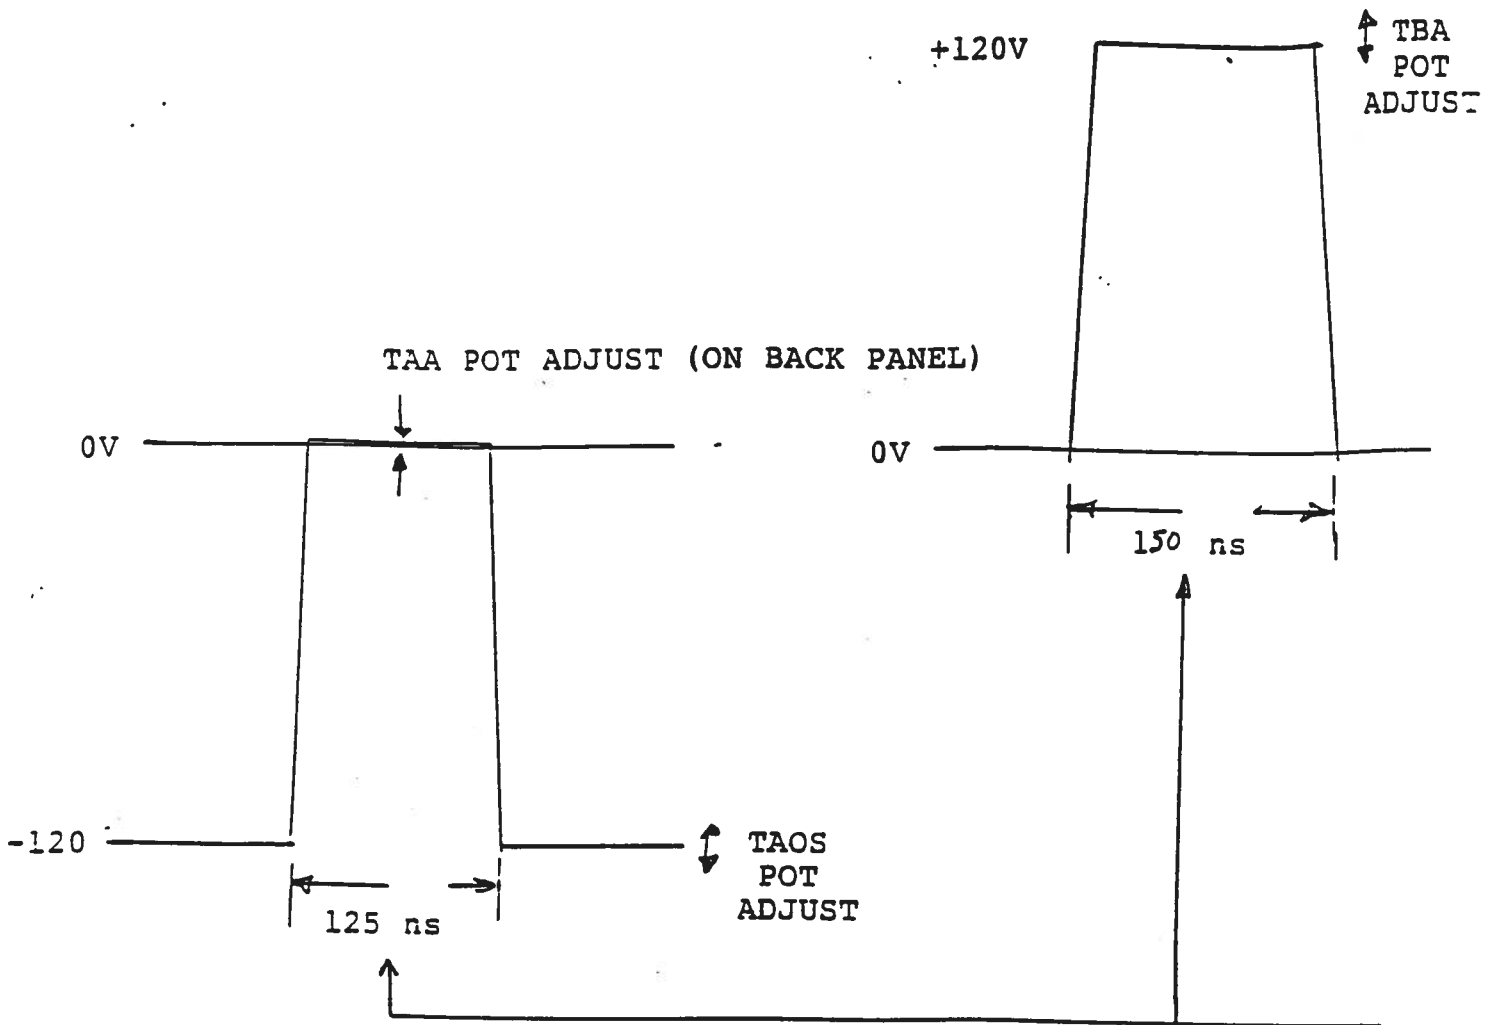

Fig. 3
- 4) With PIN A "HIGH" and PIN C "LOW", the OUT SMA connectors provide the waveforms shown in Fig. 3. The one turn TAA, TAOS and TBA locking pots (see Fig. 4) are accessible in the interior of the instrument to provide the amplitude adjustments shown in Fig. 3. CAUTION: Potentials as high as 140 Volts DC are employed and exposed in the interior of the instrument (see Fig. 4).
- (4) TRIG. SMA connector to which 1 us (or wider)  $\overline{\text{NIM}}$  pulse is applied. See paragraph 1, SECTION A. Input impedance is 50 Ohms.
- (5) OUT. SMA output connectors provide waveforms shown in Figs. 3 and 5, SECTION A.